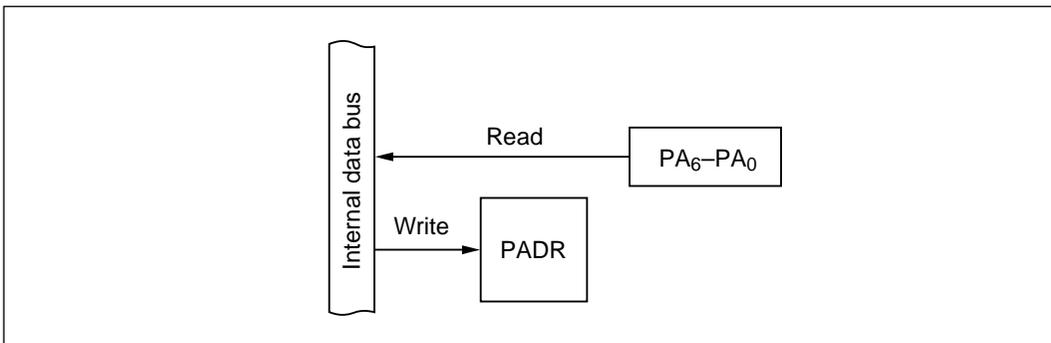

Figure 10-63 Input Port (Modes 1 to 7)
(1) Input Port (PA_6 to PA_4 in Modes 1 to 7; PA_3 to PA_0 in Modes 1, 2, 4, 6, and 7): Figure 10-63 shows a block diagram illustrating the general-purpose input function. Table 10-47 indicates register read/write data. Values written in the port A data register ($\overline{\text{PADDR}}$) have no effect on general-purpose input lines. When read, $\overline{\text{PADDR}}$ returns the value at the pin.